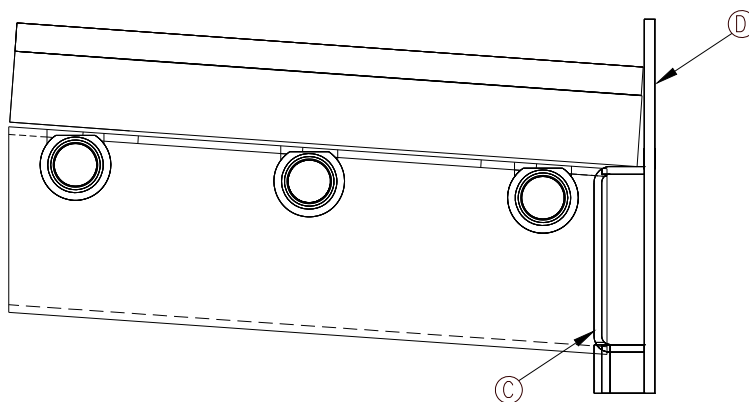

Figure 3.4b
- Put them on the horizontal air duct (C) (see figure 3.4b). Afterwards, push them towards the bottom and sides so that they rest on the back of the firebox (D) and on the side air ducts.